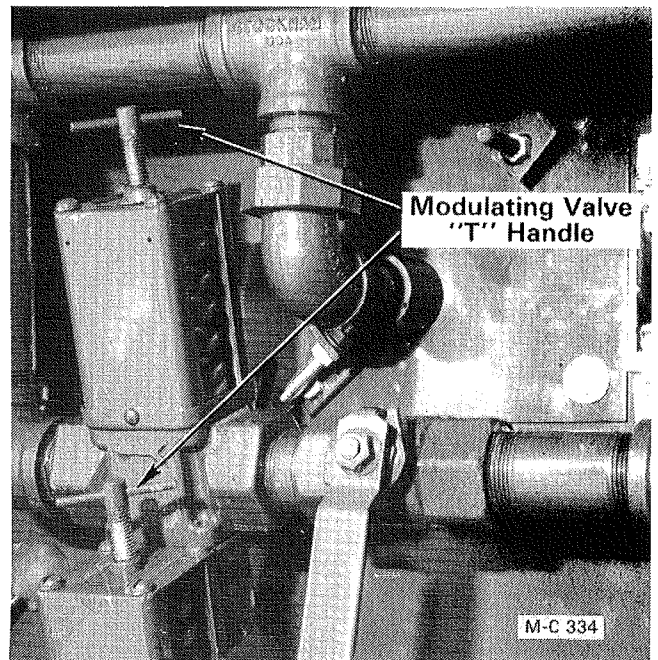

Figure 15 - Two Burner Cabinet
2. Turn the "T" handle on the modulating valve IN to INCREASE temperature and OUT to DECREASE temperature, see Figure 15. There is a temperature gauge on the control panel(s) for each burner.